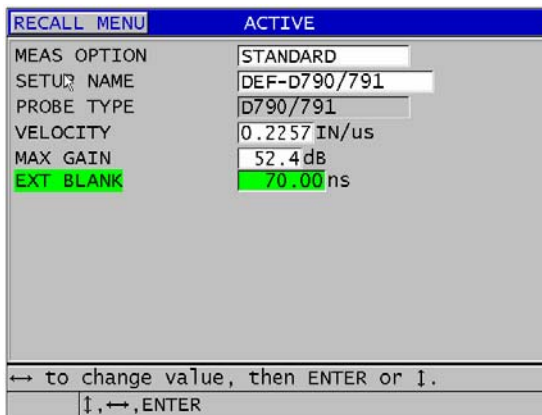

Figure 12-2 Example of the ACTIVE screen
7. In the **ACTIVE** screen (see Figure 12-2 on page 214):